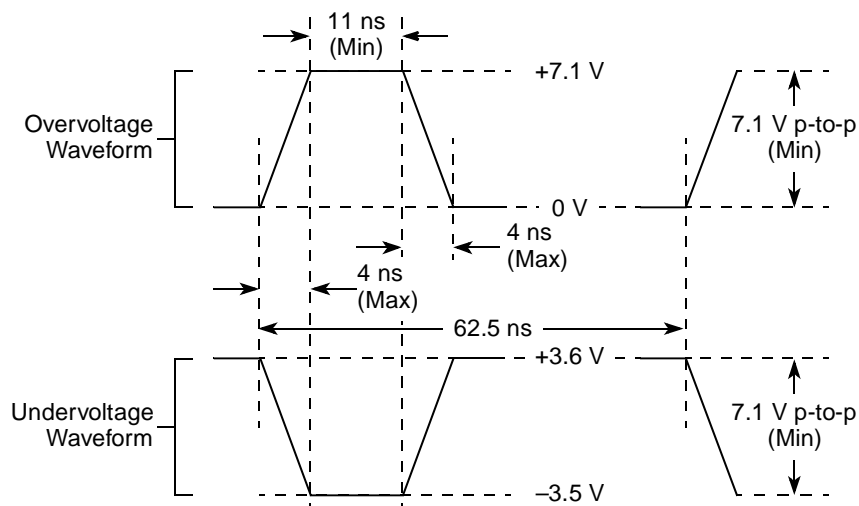

Figure 3. Maximum AC Waveforms on PCI Interface for 3.3-V Signaling
- ⁶ OV_{IN} on the PCI interface can overshoot/undershoot according to the PCI Electrical Specification for 3.3-V operation, as shown in Figure 3.
Figure 3 shows the undershoot and overshoot voltage of the PCI interface of the MPC8347E for the 3.3-V signals, respectively.